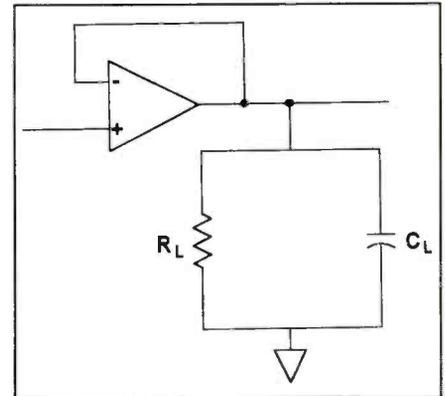

Figure 1. What is the gain of this amplifier?
- The gain of the amplifier in Figure 1 is: